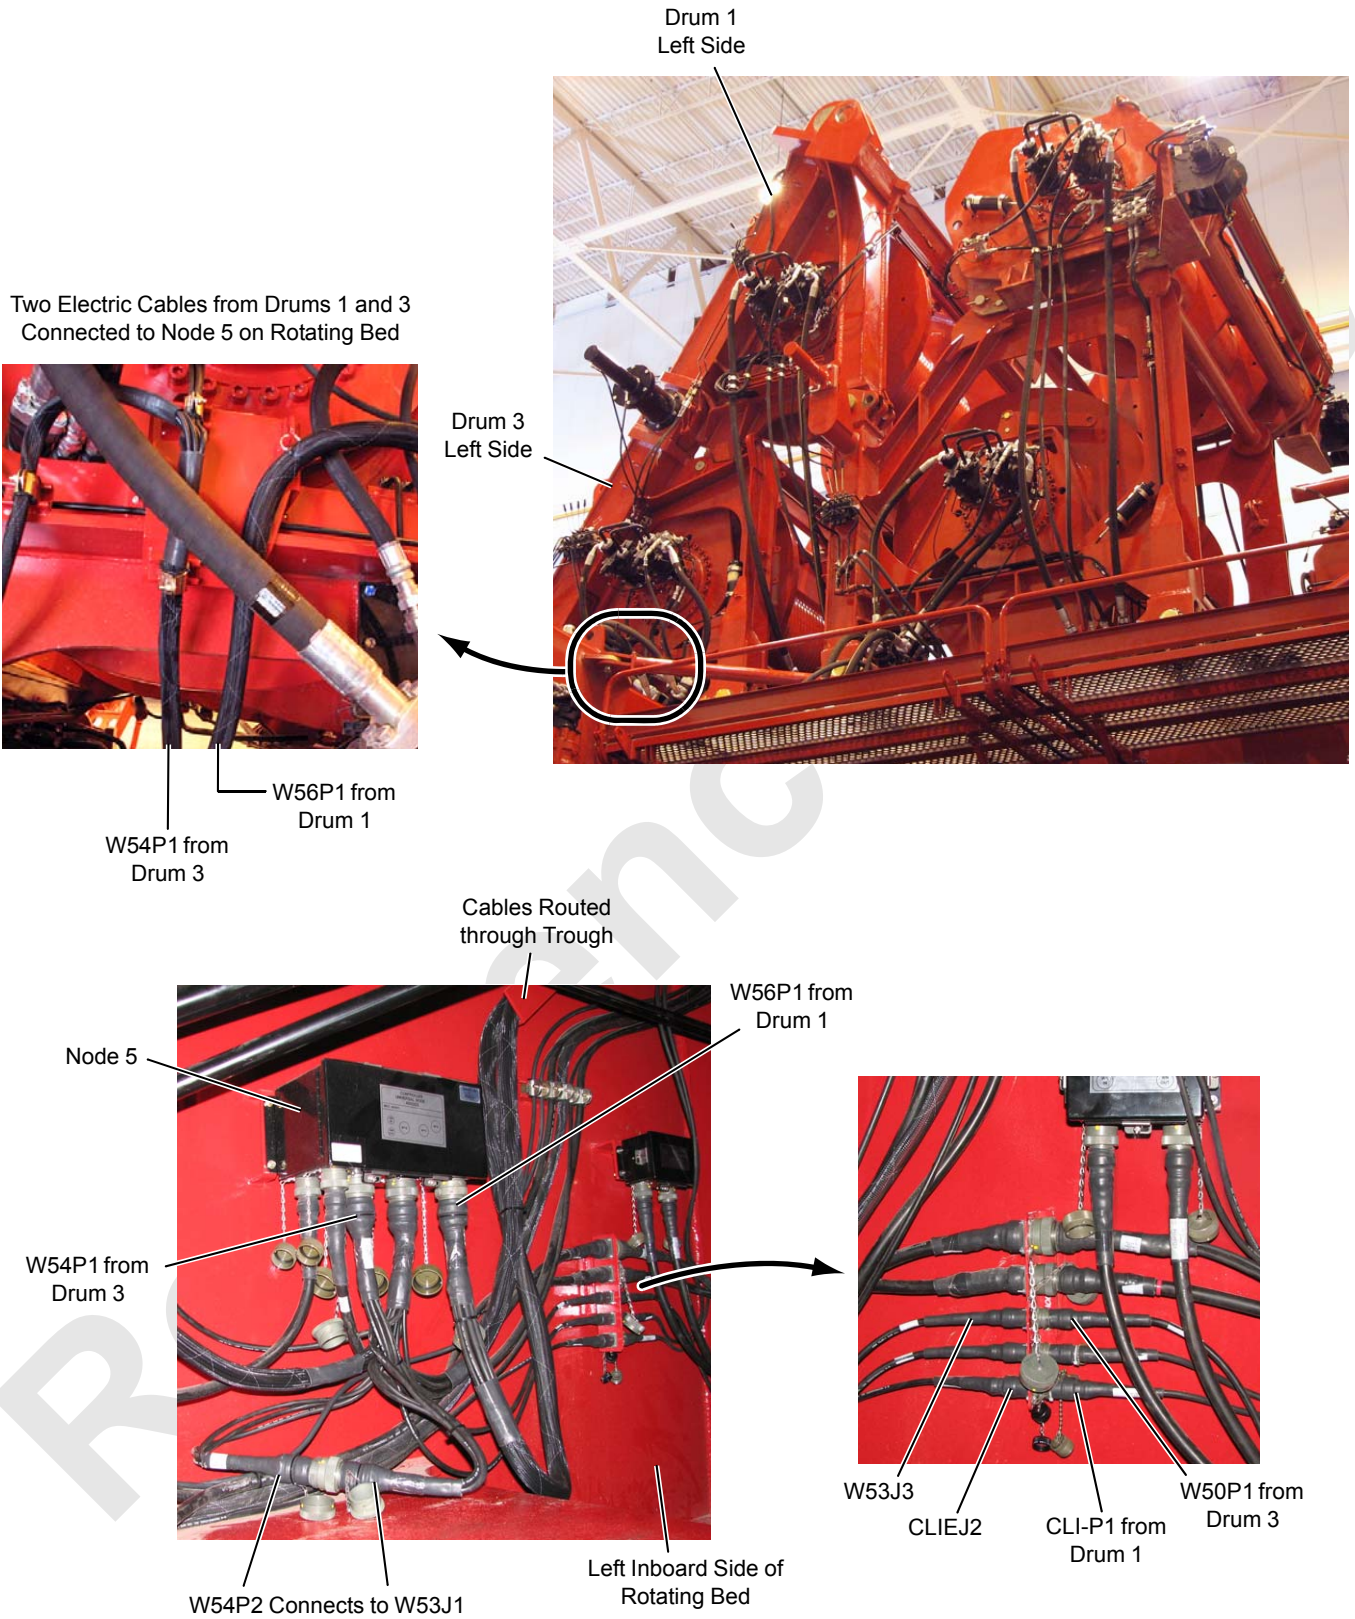

FIGURE 4-64
2. Route and connect the electric cables between the drums and the rotating bed as shown in Figure 4-64.
Two Electric Cables from Drums 2 and 4 Connected to Node 7 on Rotating Bed Center Section (see Figure 4-64)
FIGURE 4-64 continued